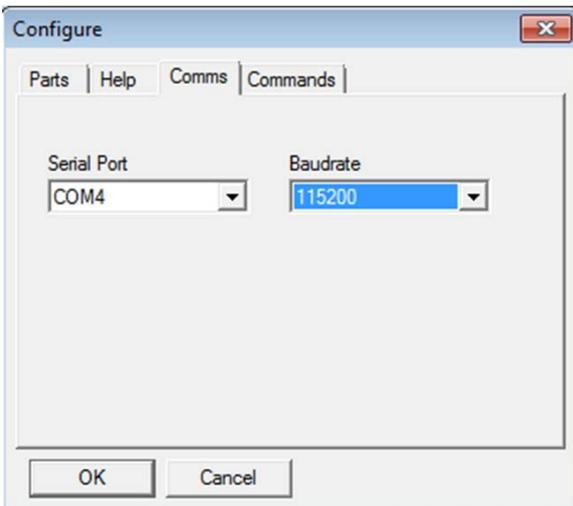
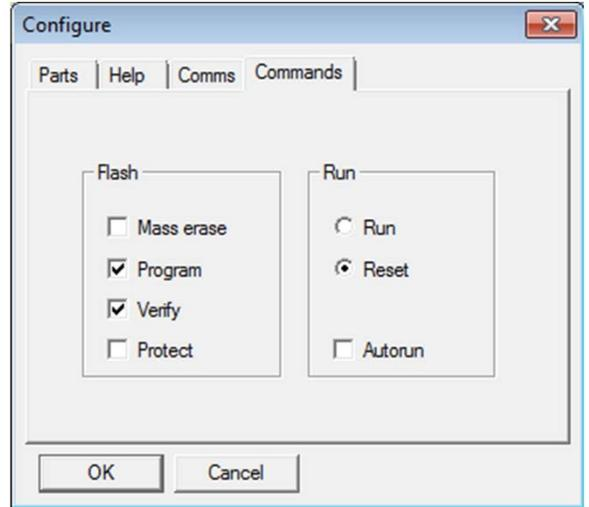

Figure 8. Select the Correct COM Port for the Downloader
Figure 9. Configuration for the Downloader
4. Click **Configure** to display the box shown in Figure 8.
The downloader file is configured for the ADuC7026 microcontroller on the ISEB, which can be selected in the **Parts** tab. The other option you may need to change is the COM port. You can select the correct port from the **Serial Port** menu found in the **Comms** tab (see Figure 8). If you cannot download the hexadecimal file correctly, lower the **Baudrate** and try again. Select **Program** and **Verify** at the same time in the **Commands** tab, as shown in Figure 9.